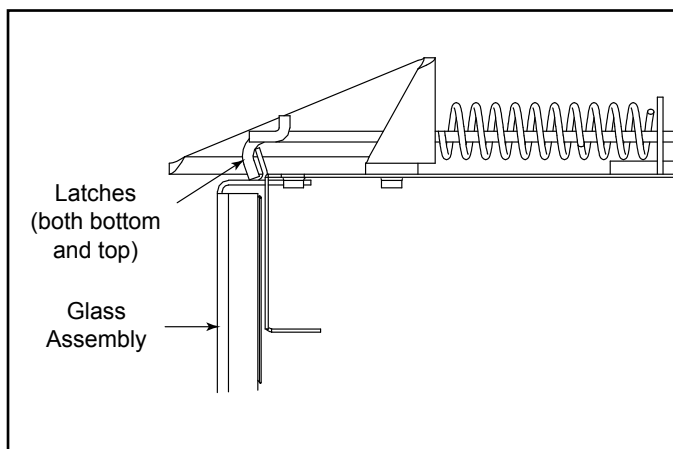

Figure 4.1 Glass Assembly
- Pull the four (two upper and two lower) glass assembly latches out of the groove on the glass frame. Refer to Figure 4.1.